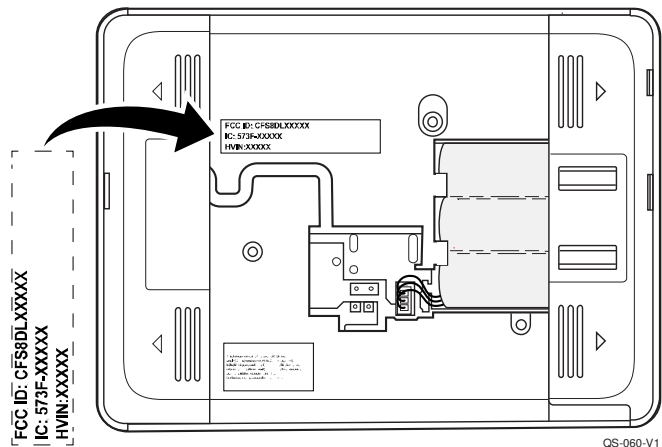

Figure 1. FCC/IC Label Location
1. Affix the provided FCC/IC label for the PROWIFIZW on the control's case back (refer to Figure 1 for location).